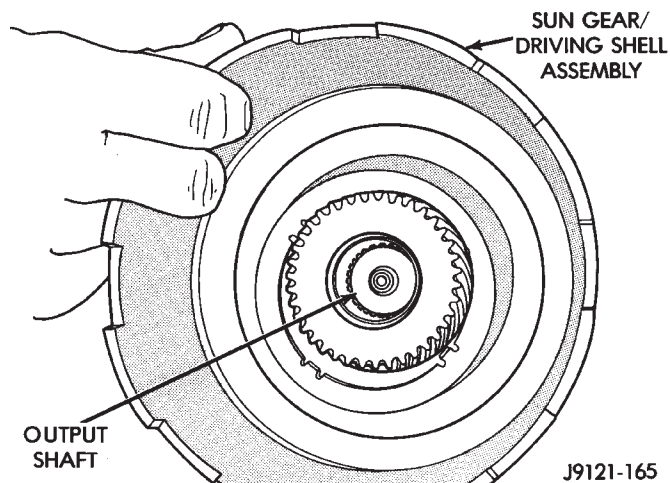

Fig. 236 Installing Assembled Sun Gear And Driving Shell On Output Shaft
(12) Install assembled driving shell and sun gear on output shaft (Fig. 236)..